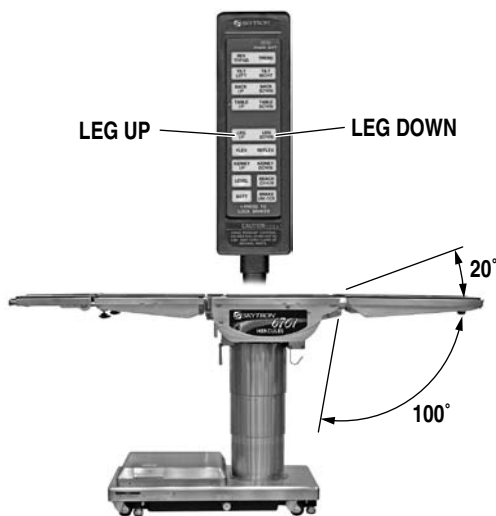

Figure 2-10. Leg Section Positioning
f. Leg Section. To lower the leg section, press the LEG DOWN button (figure 2-10). The leg section will go down to 100° below horizontal. To raise the leg section, press the LEG UP button. The leg section will go up to 20° above horizontal.